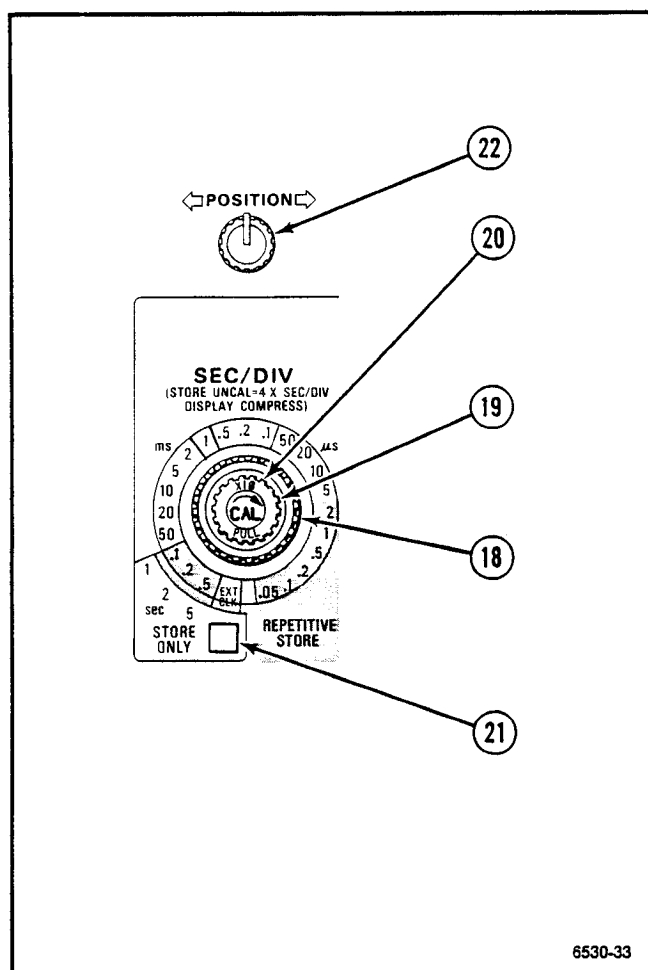

Figure 3-3. Horizontal controls.
See Figure 3-3 for the location of items 18 through 22.